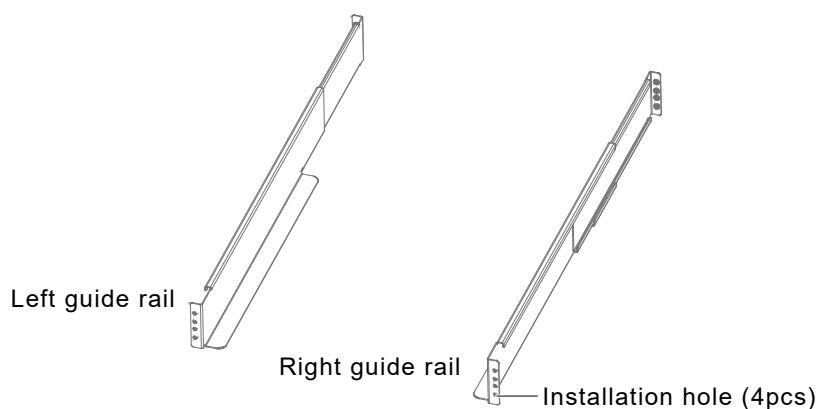

Figure 2-7 Appearance of the guide rail
a) Take out the guide rails (one left guide rail and one right guide rail), guide rail screws and panel screws from the package, distinguish the left guide rail and right guide rail according to Figure 2-7, and confirm its retractable function respectively.